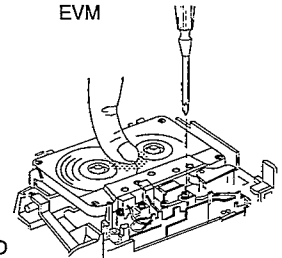

Fig. 3
- If you wish to readjust the head azimuth, be sure to adjust with adhering the cassette tape closely to the mechanism by pushing the center of cassette tape with your finger. (Shown in Fig.3)